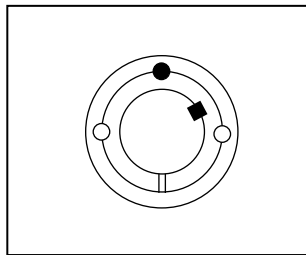

Figure 2
2. "Lightly" oil the two (2) set screws and thread them into the positions indicated by ○ in Figure 2. Do not tighten.